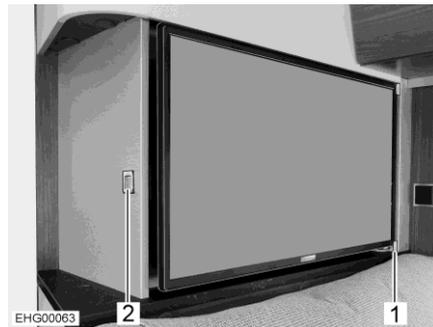

Fig. 59 Flat screen
The flat screen is secured on the side by a guide rail (Fig. 59,1).
- Press the release button (Fig. 59,2).
- Pull flat screen out of the guide rail (Fig. 59,1), into the desired position.
- Push flat screen back until it engages in the guide rail (Fig. 59,1) on the side.